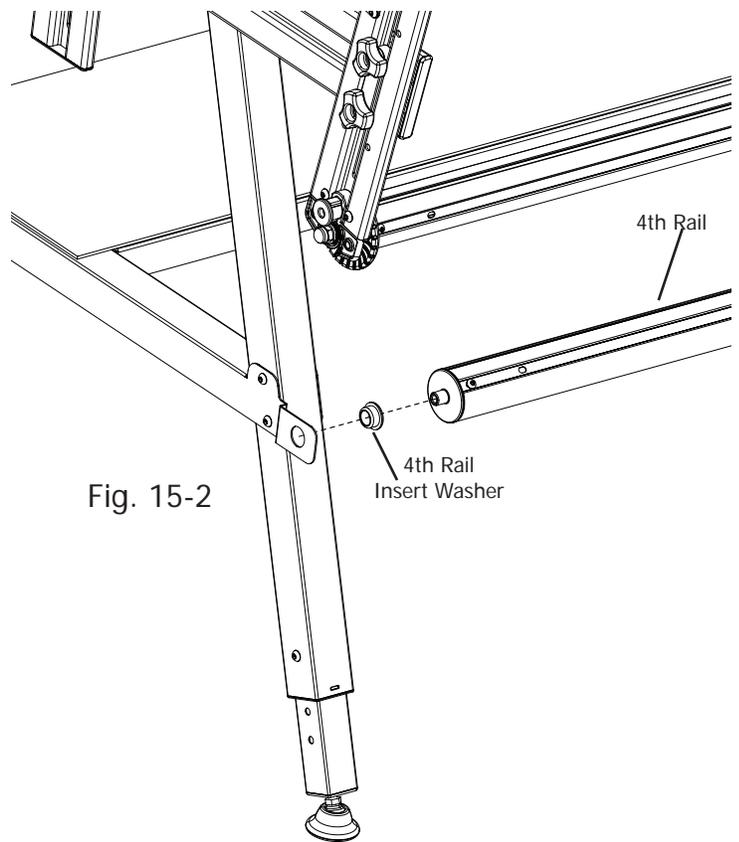

Fig. 15-2
- ⚙️ **15-7:** Take the 2 inch rail (with fourth rail end caps) and pop it into place, as shown in Fig. 15-2.